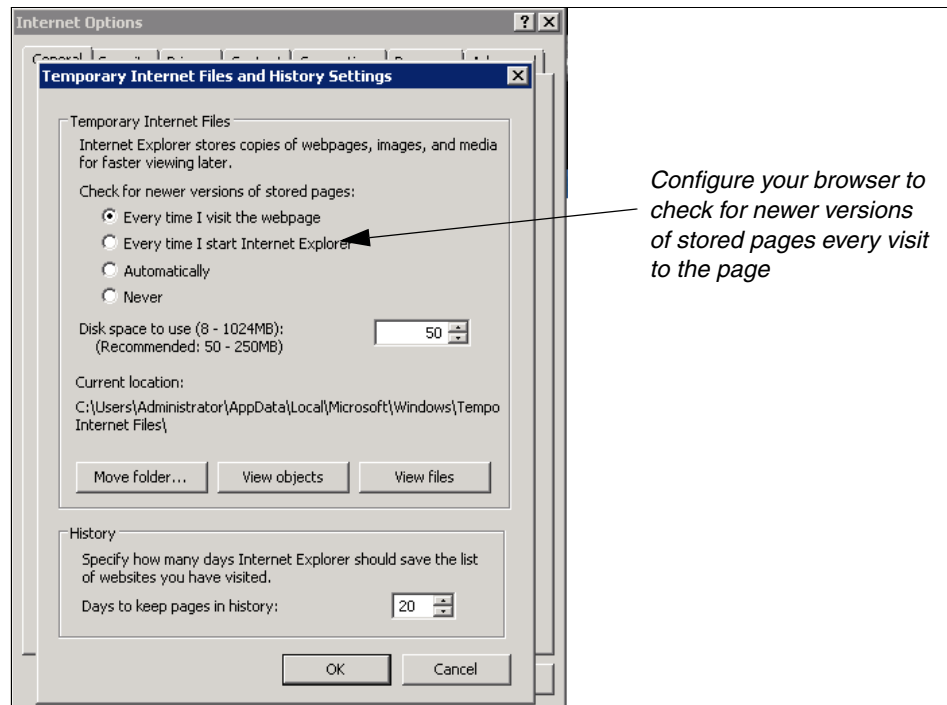

Figure 8-1 Configuring Internet Explorer
3. Click **Every time I visit the webpage** under “Check for newer versions of stored pages,” as shown in Figure 8-1.